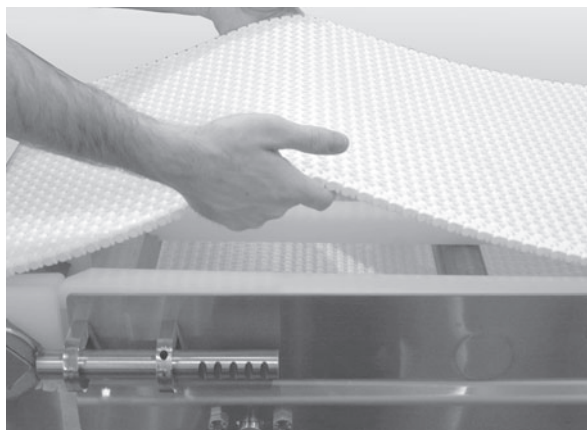

Figure 53
3. Lift up on the belt (**Figure 53**).